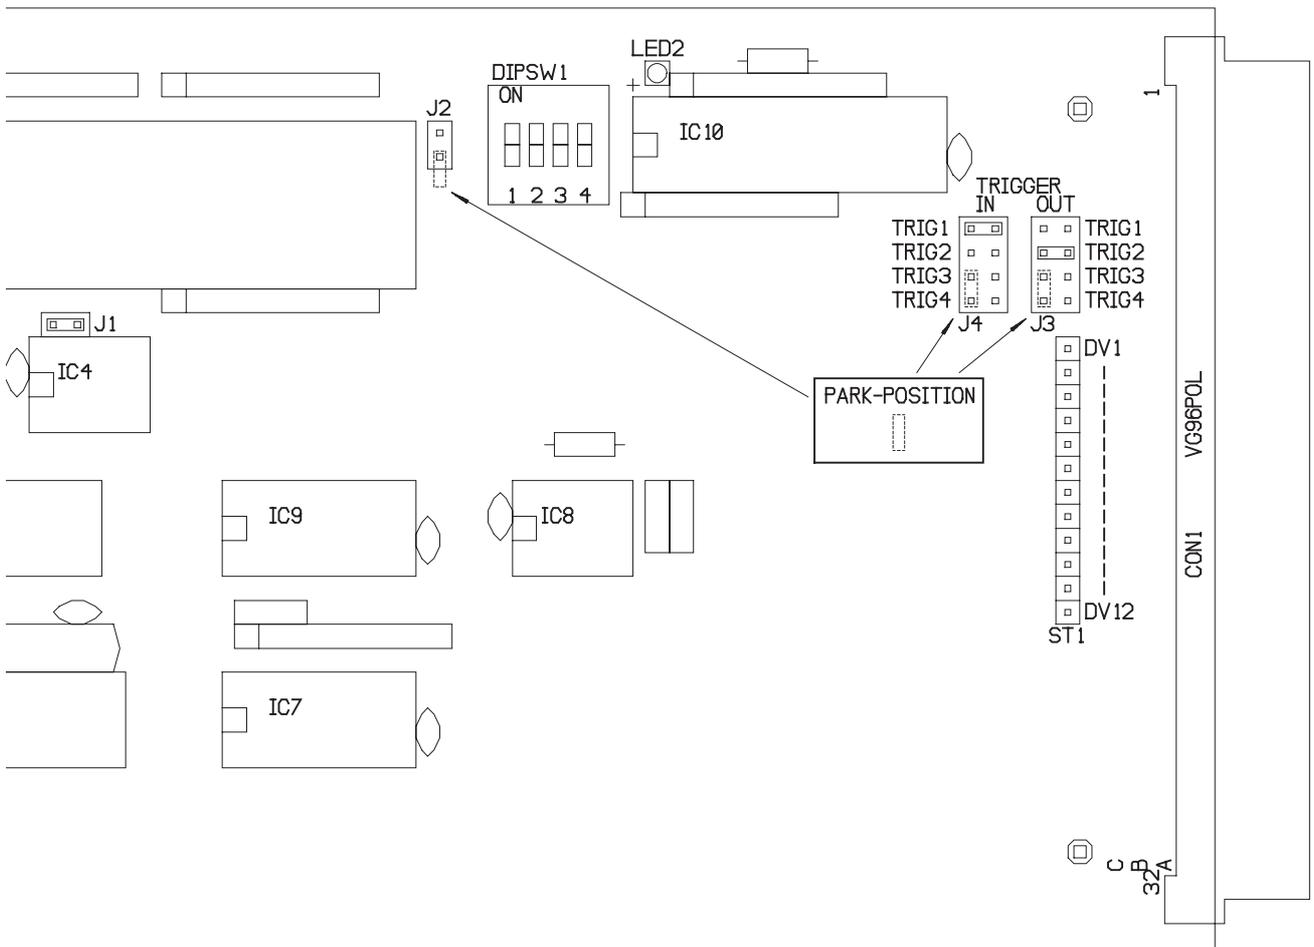

Fig. 4
If the TIME mode does not operate in accordance with the above description you should first check the switch positions indicated above. It is also possible that the internal SYNC jumper has been set; this may cause the **TCM** to be reset by other modules and interfere with the TIME function. Set the SYNC jumper to its parking position (see description of the jumpers, Fig. 4, page ?).
The interface to the other PLUGSYS modules on the **TCM** goes through the so-called trigger lines (TRIG1 - TRIG4, see bus diagram on page 15). They can be used on every module as input and/or output and carry **TTL** logic level (0, +5 V d.c.). The **TCM** can utilise both variants: as input [J4] for the event count and as output [J3] to trigger certain operating states after a particular time or after a certain number of input pulses. In this connection it is important that the correct signal from the correct module is used as input to the **TCM** and that the output signal generated is wired through the correct trigger line to the correct module. The position of the jumpers is shown in Fig. 4 .
- J2:** SYNC jumper. If this jumper is set there is a simple synchronisation of the TCM to the input signal. This means that the internal clock is reset to the preset time as soon as an input pulse is present. When this jumper is in position the **TCM** should only be operated in the TIME mode. Normal jumper position is the parking position (see Fig. 4, page 9).
The positions of the jumpers in the **VCM** can be taken from the Operating Instructions of the **VCM**. The positions on the **TCM** are explained in detail in the section "Trigger input/output" on page 9 and in Fig. 4.
It is also possible to generate a DIRECT trigger pulse from a PC/XT/AT/286/386/486 (IBM or compatible, preferably an HSE Process Controller), and thus trigger other PLUGSYS modules which do not have their own PC interface. This does however require a suitable software, an **ICI** Type 659 and a **BI** Type 657. The corresponding card address can be set on the 4-way DIP switch DIPSW1 on the circuit board (see Fig. 4 on page 9) according to the following table: